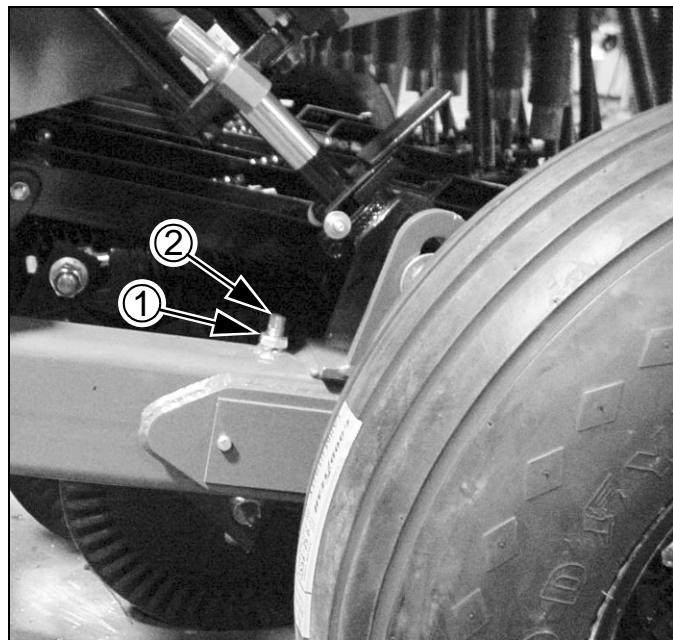

Figure 43
*Refer to Figure 43*
1. Loosen jam nut ①.
2. Move front idler sprocket on top of chain, tightening chain, by screwing in adjustment stud ②.